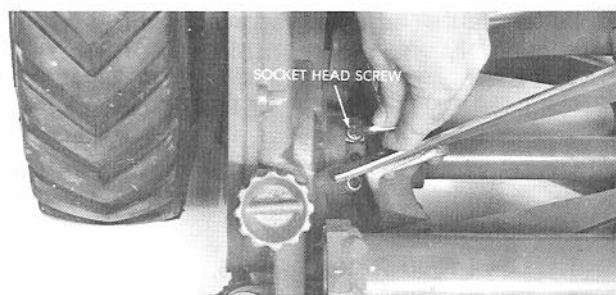
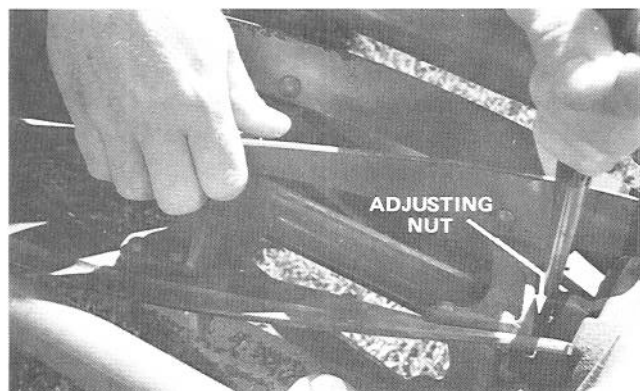

Figure 44
Figure 45
31. Loosen socket head set screws in reel bearing adjusting nuts with a 7/32" Allen wrench (Fig. 44). In small increments, rotate the adjusting nut (Fig. 45) in normal direction that reel turns to remove all end play from the reel. Make sure to hold reel so it cannot rotate (Fig. 45).
**NOTE:** Insert punch and try to turn adjusting nut after set screws are tightened (Fig. 45). If nut can be turned, remove set screws, lubricate screws with oil, and reinstall them tightly — 150 in./lbs.